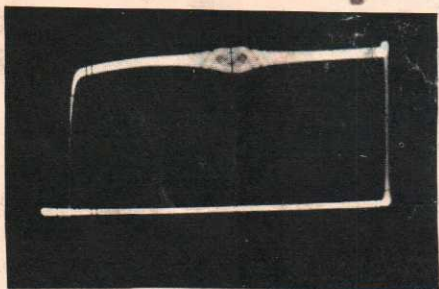

Figure 36. 455 kc Sweep Trace
4. Set MOD switch to "SWEEP". Adjust core of coil L-7 so that 455 kc marker appears in the center of the trace, as shown in Figure 36. The marker will be quite broad, as shown. Reduce marker size by setting XTAL OSC switch to "LO".